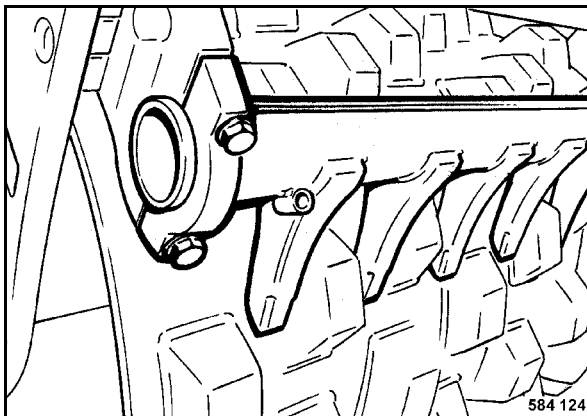

Fig. 191
- Check adjustment and condition of scrapers (Fig. 191), adjust or replace the teeth if necessary.